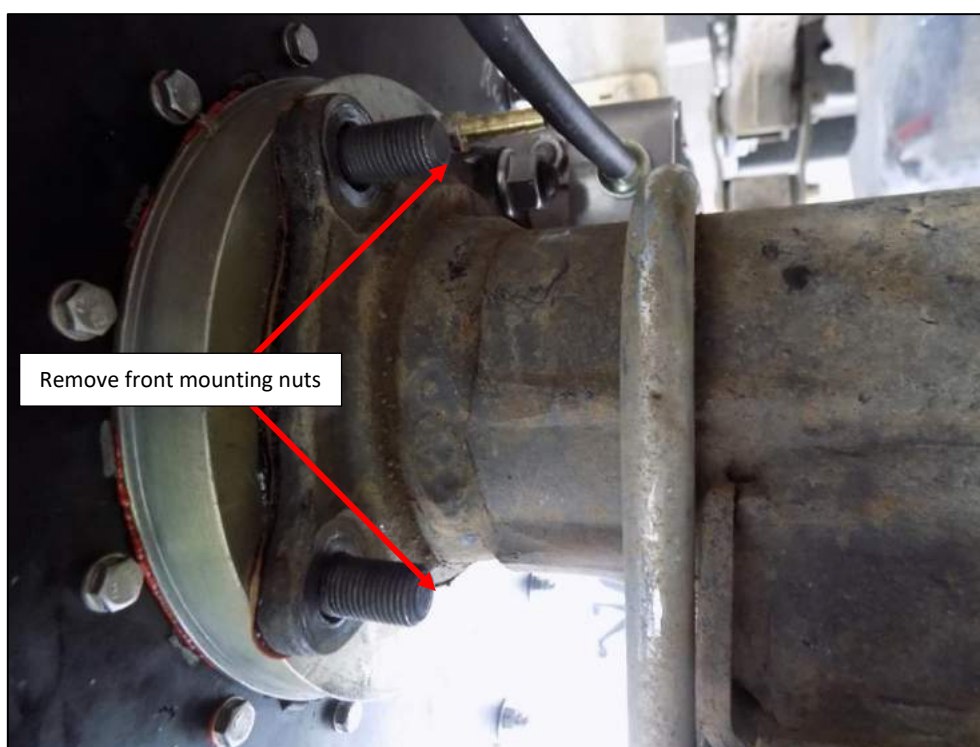

Figure 11
22. Remove the 2 front mounting nuts (Figure 11).